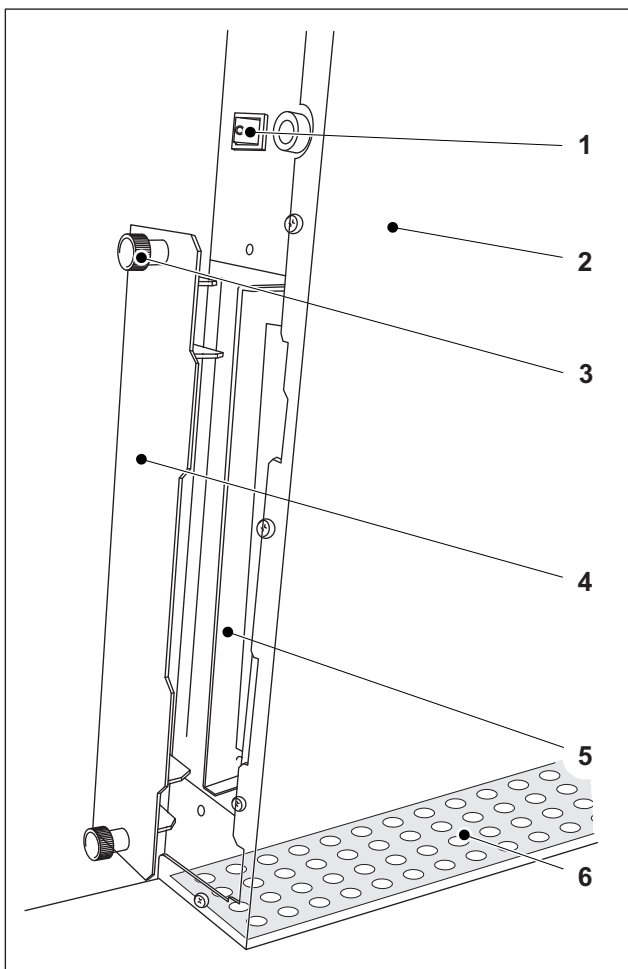

Fig. 27 Filter element of the Wallscreen
2. Switch off the Wallscreen at the ON/OFF switch (Fig. 27/1).
4. Unscrew the knurled screws (Fig. 27/3) at the bottom of the filter element support (Fig. 27/4).
10. Tighten the knurled screws (Fig. 27/3).